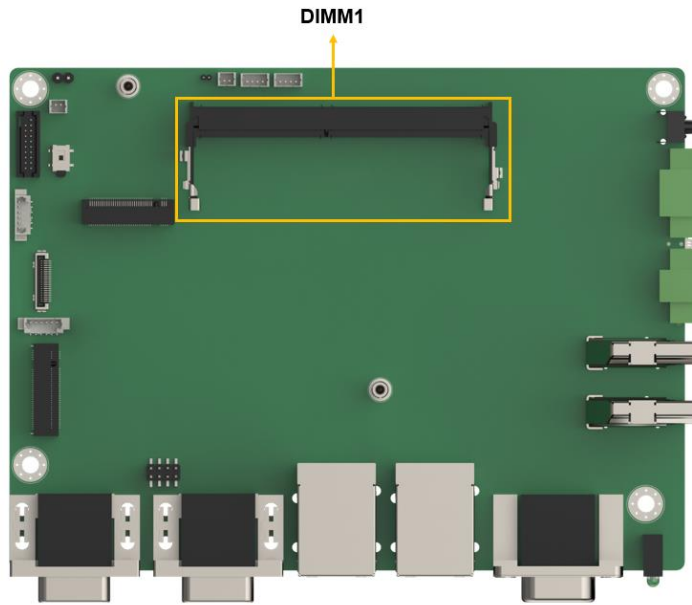

Figure 4-9: DDR4 SO-DIMM Socket Location
- CN Location:** See **Figure 4-9**